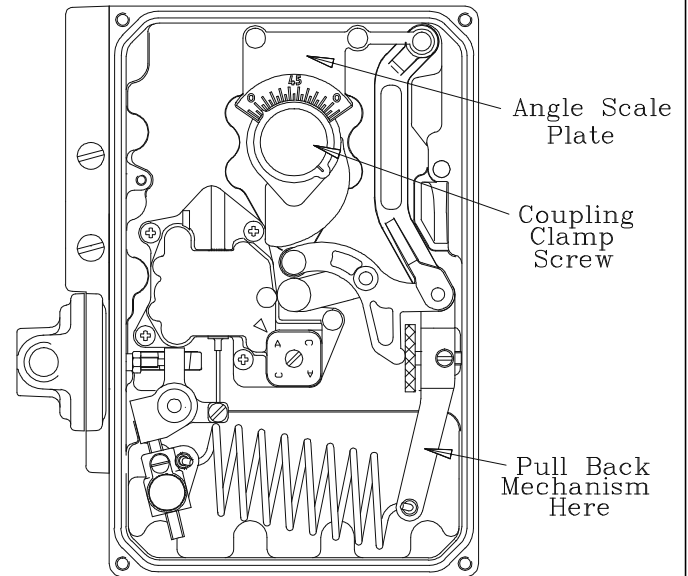

Figure 2. View of inside of Positioner Box Showing Parts for Removal During Installation.
2.1.2 Remove positioner cover and undo the two M4 screws retaining the red angle scale plate and remove coupling as shown in Figure 2.
2.1.4 Observe the direction that the cam moves with a rising signal and, if correct, place the coupling on the actuator square with one hand whilst pulling back the mechanism with the other (refer to Figure 2). If the direction is not as required then refer to section 4.1. If the actuator has been correctly positioned near mid-stroke, the cam follower will contact the cam at approximately half way. Ensure that the coupling is pushed fully onto the actuator square and tighten the central fixing screw which will have the effect of centralising the cam follower on cam. Refit the angle scale plate.